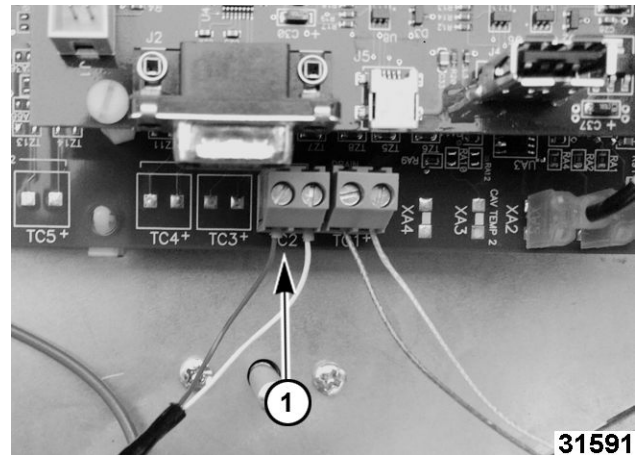

Fig. 47
2. Disconnect probe socket from control board at TC2 connection (1, Fig. 47).